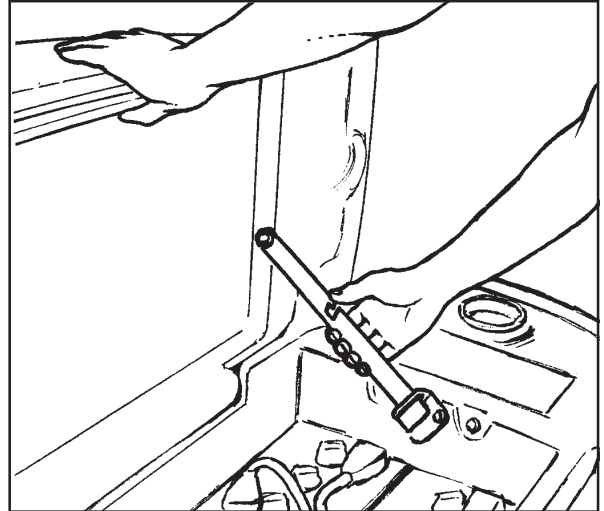

Figure 30
1. To inspect batteries, tip up recovery tank until it locks in the full open position. See figure 30. To close the tank, pull up on the latch arm and then slowly lower the tank to the closed position.